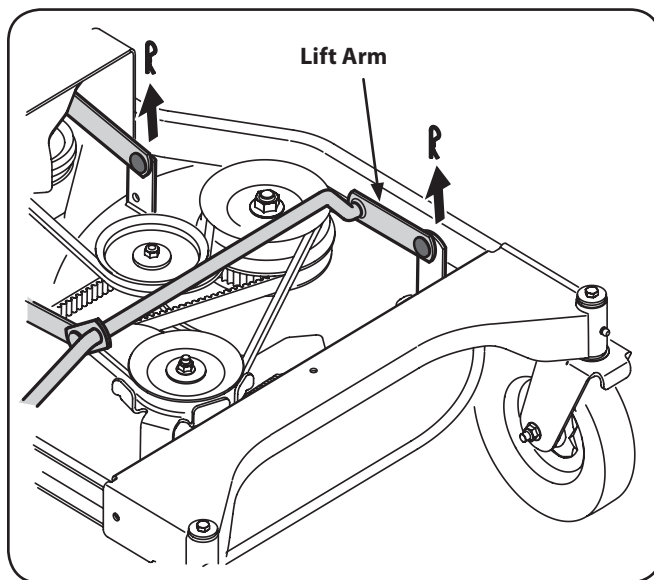

Figure 7-3
7. Looking at the cutting deck from the left side, locate and carefully remove the hairpin clips that secure the deck supports on the rear left side and front left side of the deck. See Figure 7-3.
9. Carefully remove the front deck supports from the deck lift arms. See Figure 7-3.